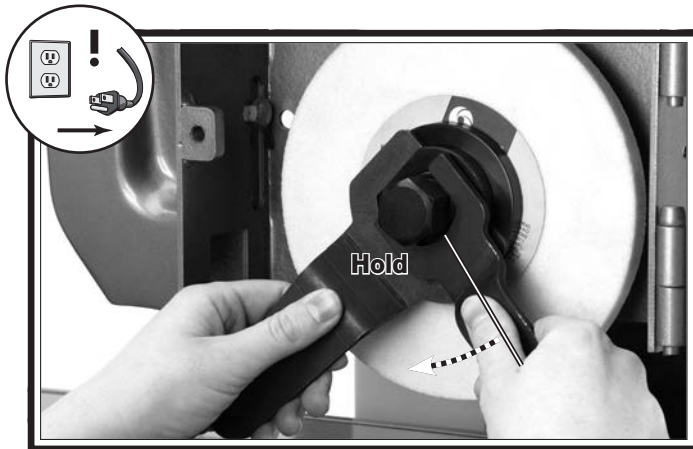

Figure 33. Pulling wheel hub.
7. While holding the wheel and hub from sliding off of the spindle, use the wrenches shown in **Figure 33**, tighten the hub puller until the wheel and hub assembly is pulled from the spindle.